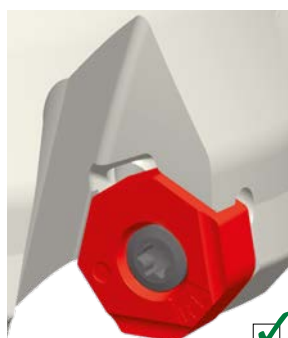

Fig. 1
- These wiper inserts have 2 cutting edges for left hand use and 2 corners for right hand use. Position as shown in figure 1.